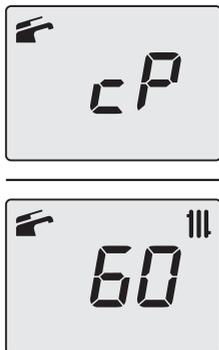

Fig. 10.26
- Press key 15 to vary the output in chimney sweep mode: when the LCD display displays the letters **cP** that alternate with the heating water temperature value (e.g. **60**), the "flue sweep function" is at maximum (eventually range rated) output in heating mode (Fig. 10.26).